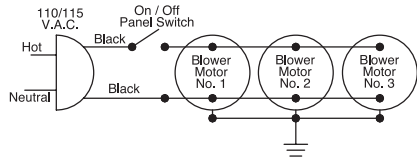

Figure 6: Wiring Diagram
2. Apply wiring diagram label (shown in Figure 6) to control cover and replace cover back over compartment opening.